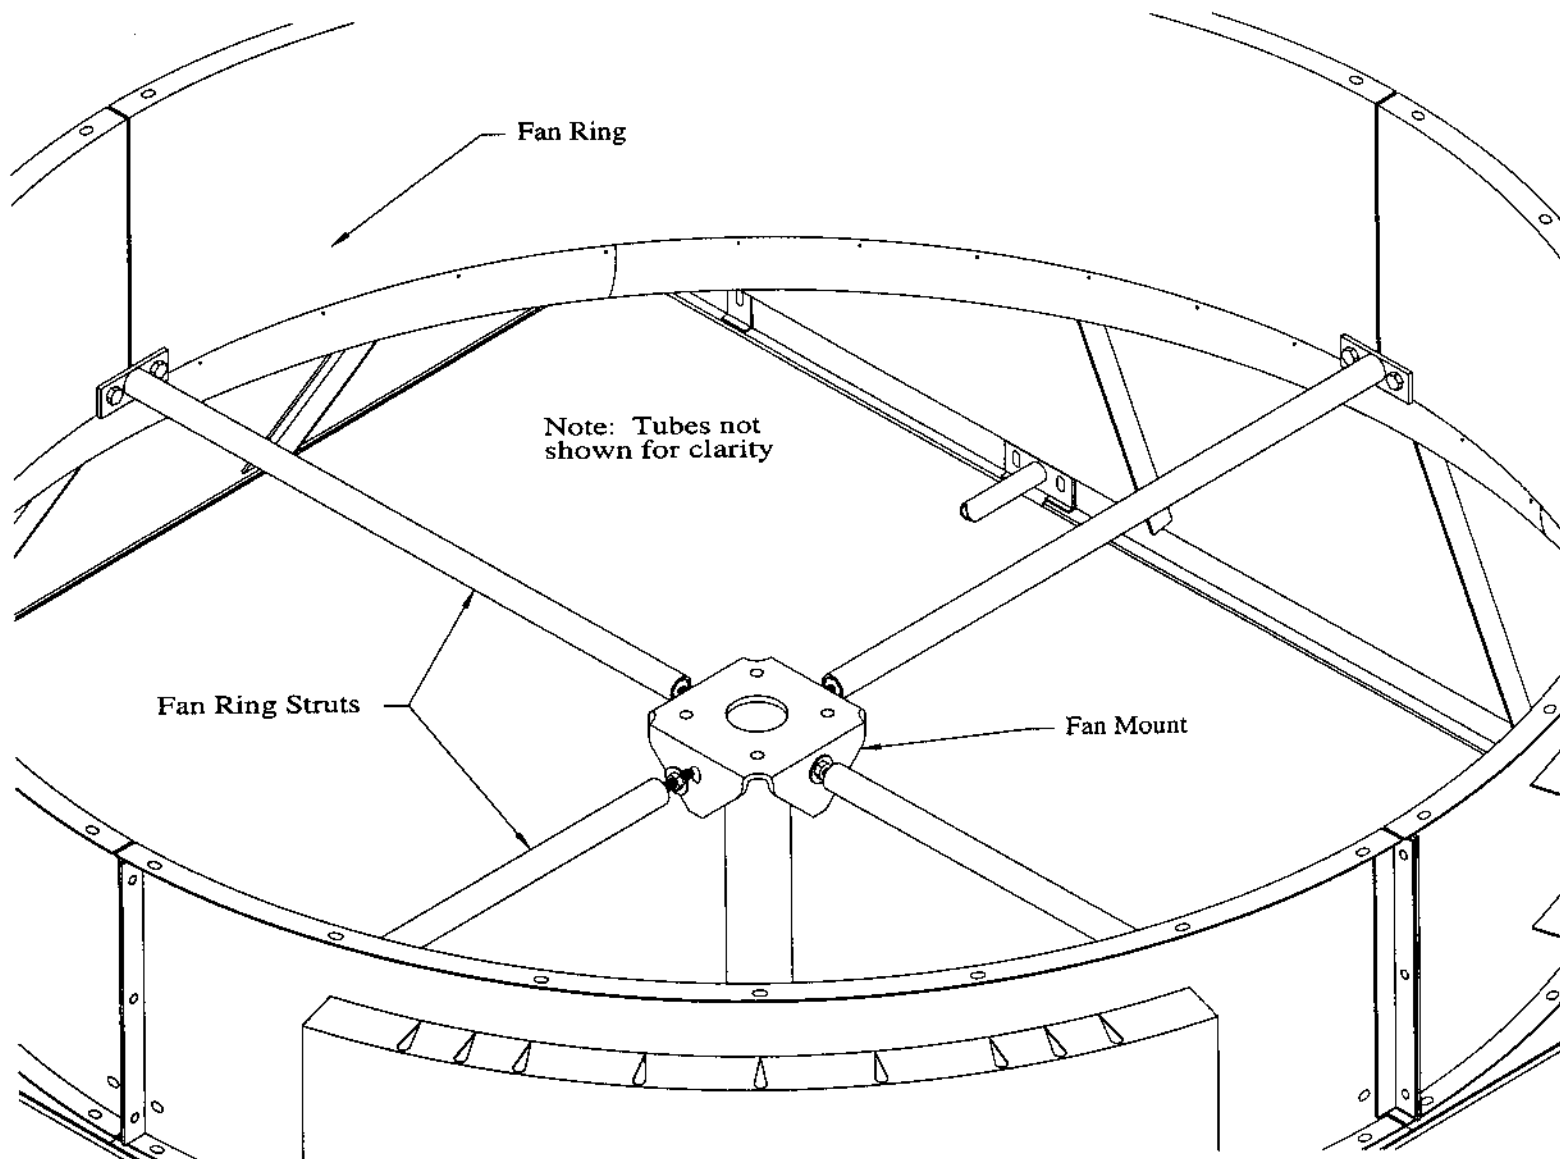

FIG. B5 - FAN MOUNT AND FAN RING STRUTS
7. Lift fan mount through top of fan ring and lower down onto fan mount support in tube bundle frame, or for multi-bundle units, onto tube bundle frame side channels. Reinstall shaft-thru air seals, if required, after fan mount is bolted to fan mount support. Install fan ring struts. See Fig. B5.